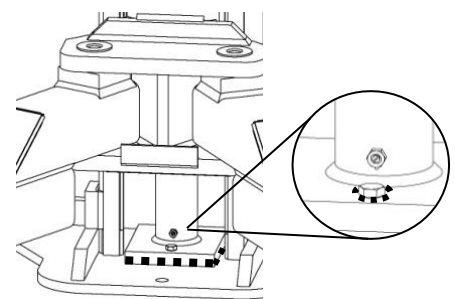

FIGURE 21 : CYLINDER BASE LUBRICATION
2. LUBRICATE THE EDGE BETWEEN THE CYLINDER BASE AND COLUMN BASES, AND THE BOLT OF THE CYLINDER BASE WITH AUTOMATIC TRANSMISSION OIL. SEE **FIGURE 21** IN DOTTED LINE.